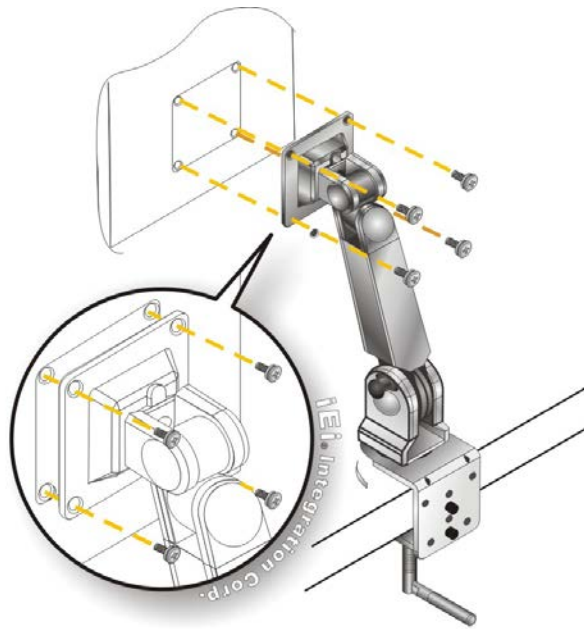

Figure 3-45: Monitor Arm Mounting
Step 2: Secure the monitor to the arm with the supplied retention screws (Figure 3-45).